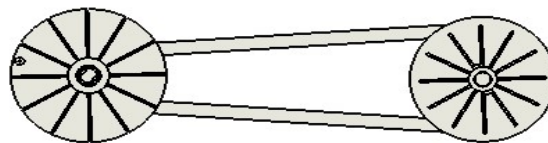

Figure 28
Step 1. One person to trigger up the big belt wheel and another person put the new belt fitted to the middle of the two wheels, And pulling tighten the belt as much as possible to the other end (Figure 28).